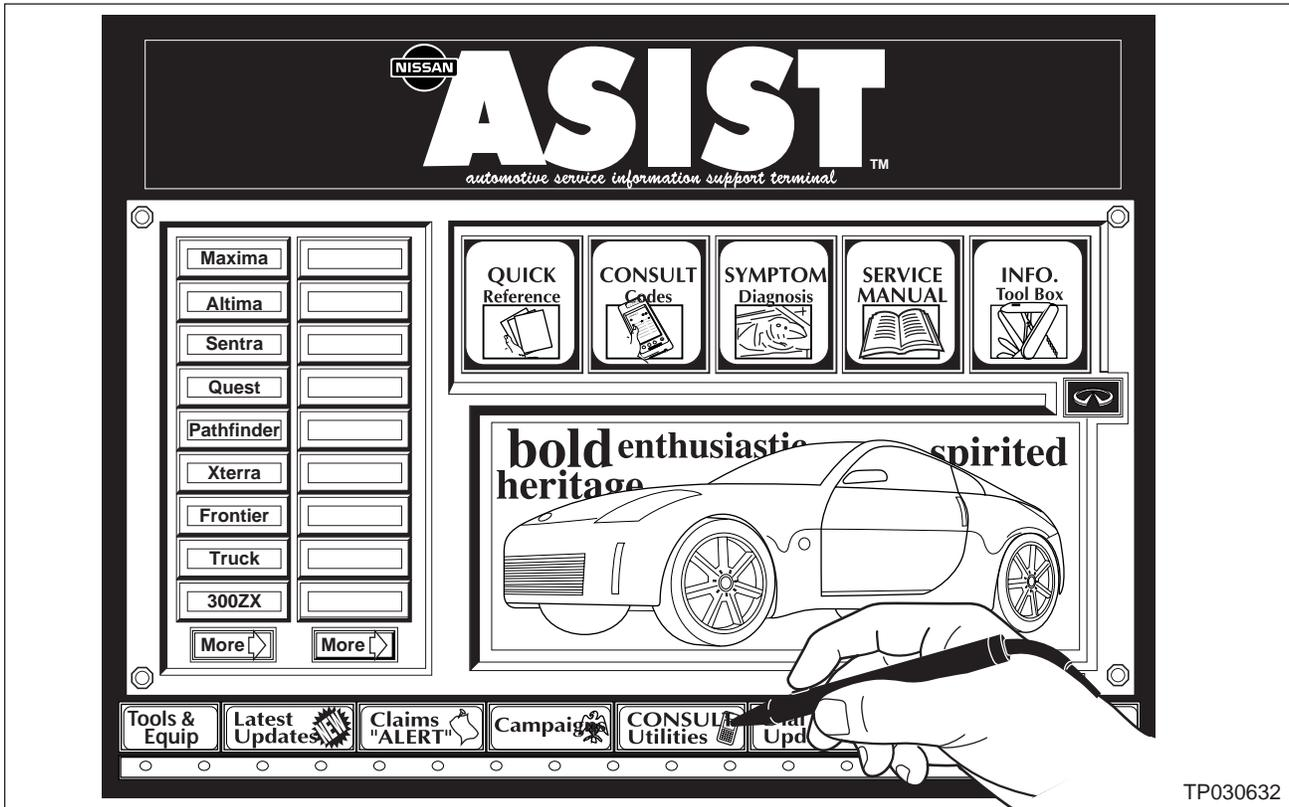

Figure 3
- From the ASIST PC main menu screen, select "**CONSULT UTILITIES**" (see Figure 3).